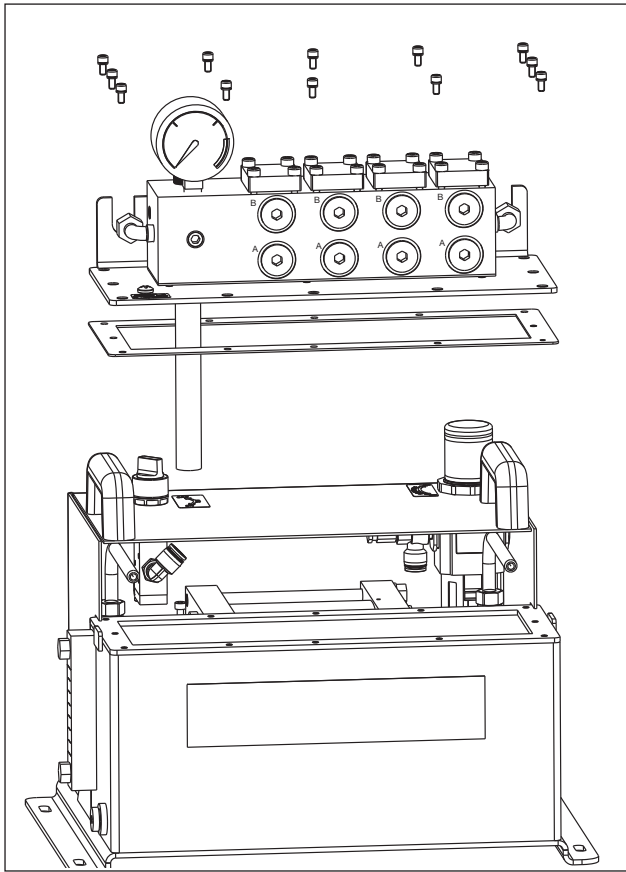

Figure 15 - Manifold Assembly
6. Remove the bolts and sealing washers securing the hydraulic manifold and cover plate to the hydraulic reservoir. See Figure 15.
7. Carefully lift the manifold and cover plate assembly straight up until it is removed from the hydraulic reservoir. See Figure 15. Set this assembly aside, in a clean and dry location.